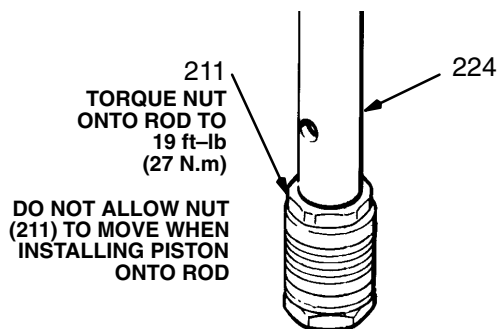

Fig 37-2
- Use a wrench to **CAREFULLY** tighten the nut (211) onto the piston rod to 19 ft-lbs (25 N.m). Refer to Fig 37-2.